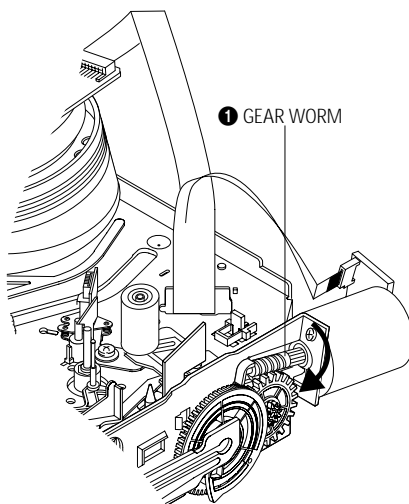

Fig. 2
- 1) Turn the Gear Worm ❶ clockwise in the direction of arrow with a screwdriver. (See Fig. 2)
- 3) Rotate Gear Worm ❶ clockwise using screwdriver again up to the state of eject mode and then pick out the tape. (Refer to Fig. 2)